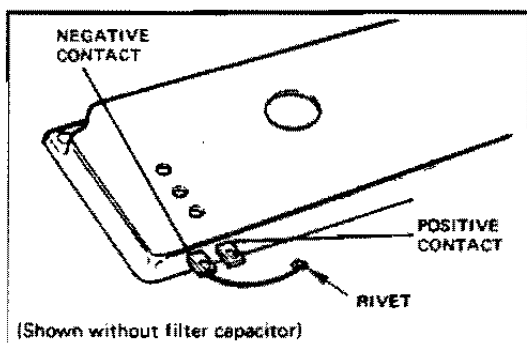

FIG. 4-15 RELOCATING THE LEAD
- Lift the filter capacitor up and very carefully examine the timer contacts. On some cameras, these contacts are internally grounded with a very fine wire running under the spider. If you find that the camera is internally grounded to the positive contact (Figure 4-15 for identification of positive and negative contacts),